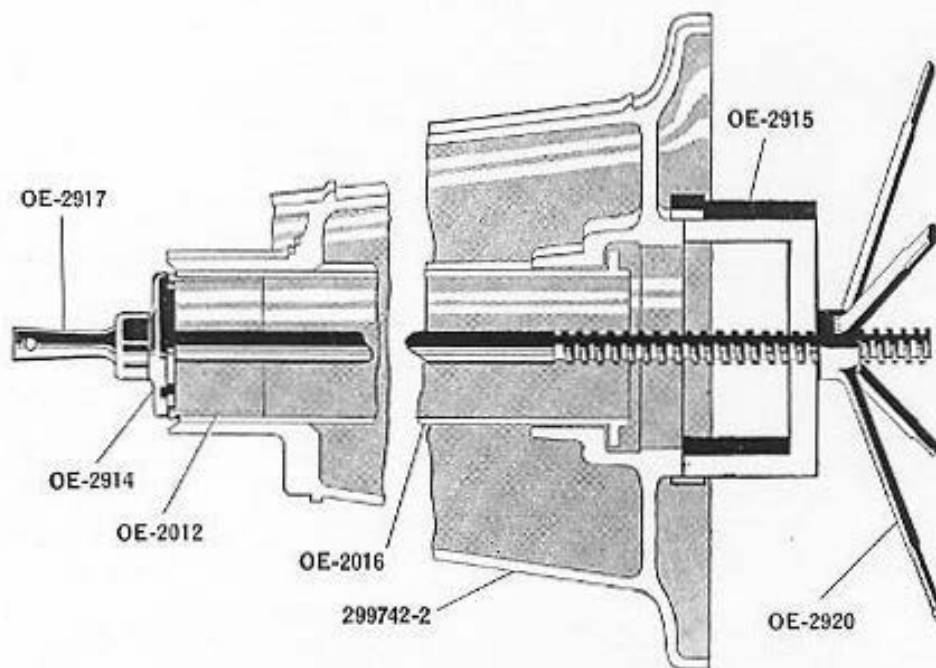

Figure 12—Removing column guide bushing (OE-2016) from fixed pedestal casing (299742-2)
- Place disc (OE-2914) against flange of bushing (OE-2012) at upper end of column guide bushing (OE-2016). Insert threaded bar (OE-2917) through the hole in the center and place tool (OE-2915) on the lower face of the fixed pedestal casing (299742-2) and over the threaded bar (OE-2917). Screw the handwheel tool (OE-2920) on the threaded bar and continue turning the handwheel until the column guide bushing (OE-2016) is free. See Figure 12.